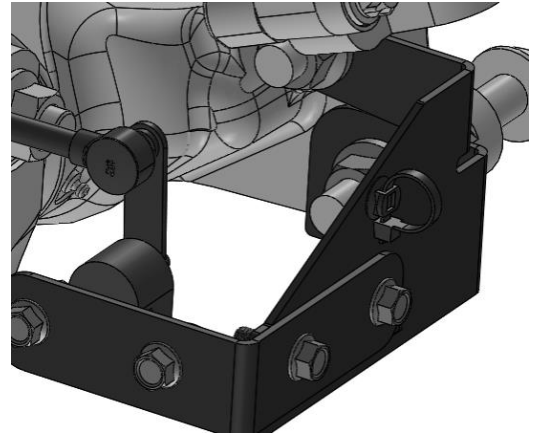

Figure 40. Install the Cable Tie to Steering Mount.
8. Locate the Cable Tie and push it into the top most hole on the Steering Mount as shown in Figure 40.